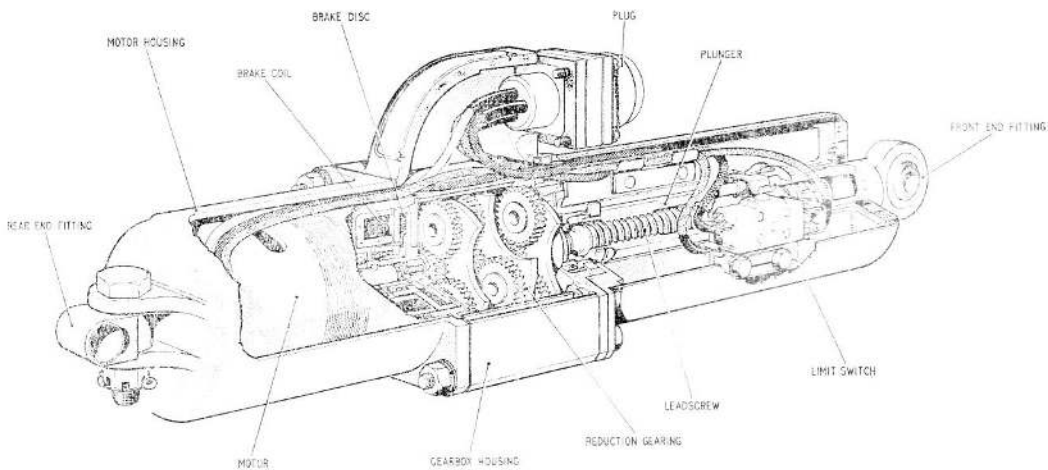

Fig. 1. Cutaway view of actuator
1. Plessey linear actuator, Type 1CZ136150, is a variant in the Cub Puma series described in the main chapter. A cutaway view of the actuator is shown in fig. 1. The following text describes the salient features of the actuator and establishes any departures, from the general design, not covered by the Leading Particulars.